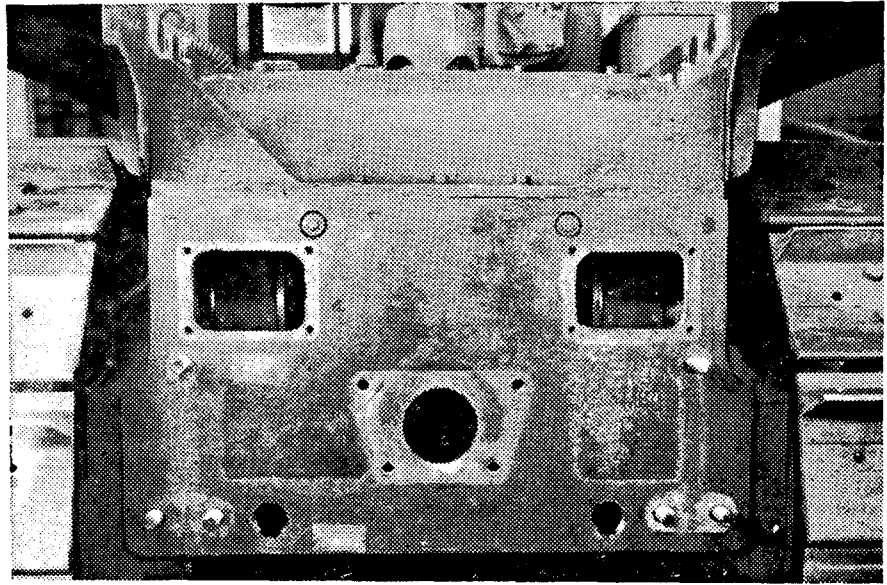

Figure 7A
2. Remove tractor seat, inspection covers, power take-off cover, drawbar brackets, and final drive filler cups. See Figure 7A, page 15.